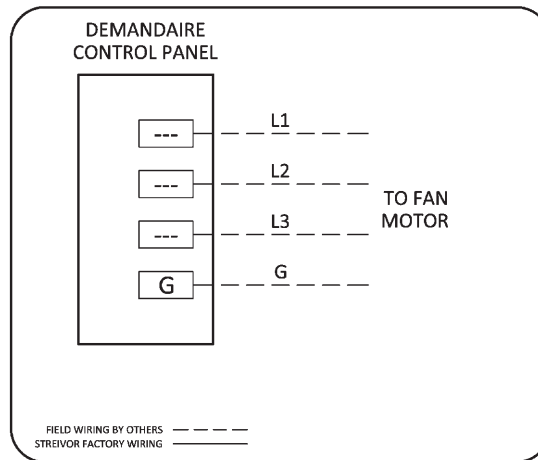

FIGURE 3: Motor Circuit Output Power
- The output terminals located on the Motor Starter(s) have been pre-wired to the designated output power terminal blocks in the control panel. Connect the output power terminal blocks to the designated fan motor(s) as shown on the DCP drawings (*Figure 3*).